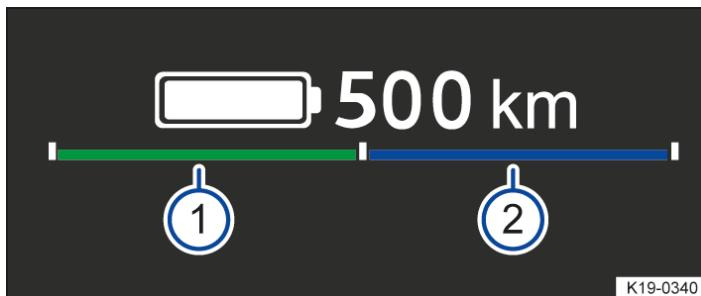

Fig. 1 In the digital instrument cluster: power display (illustration).
Using the bar divided in the middle, the power display continuously shows the availability of brake energy recuperation → Fig. 1 ① in green to the left and traction → Fig. 1 ② in blue to the right. The availability is unrestricted when the respective bar reaches the end marking. The bar is shown shortened in each case if availability is restricted.